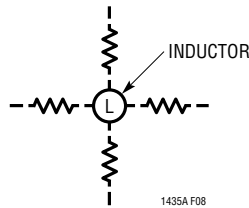

Figure 13. Allowable Inductor/ R_{SENSE} Layout Orientations
9. If operating close to the minimum on-time limit, is the sense resistor oriented on the radial axis of the inductor? See Figure 13.